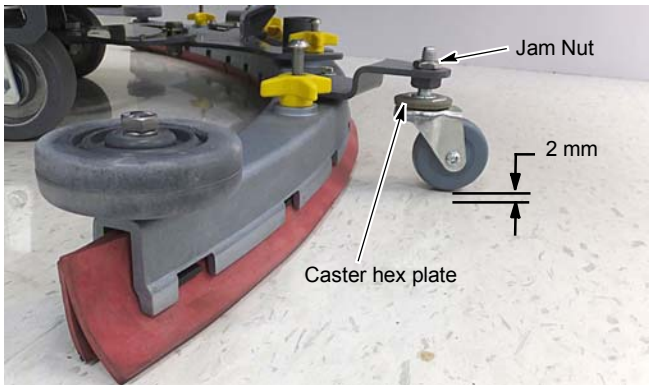

FIG. 8
- To adjust the blade deflection, loosen the jam nut and turn the caster hex plate until there is 2mm space between caster and floor. Re-tighten jam nut and repeat step on other caster (Figure 8).